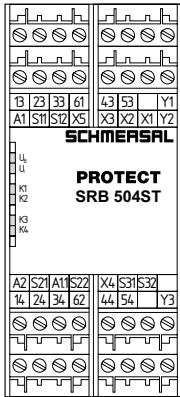

Fig. 1
**5.2 Description of the terminals (see Fig. 1)**